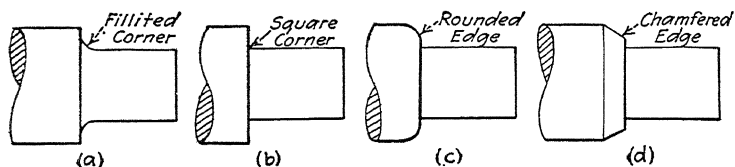

FIG. 95.
**114. Definitions.**—In Fig. 95, *a* represents a shoulder with a “filleted” corner, *b* with a “square” corner, *c* illustrates a shoulder with a “rounded” edge, *d* with a “chamfered” edge, and of course the last two terms apply as well to the ends of a piece as to the edges of a shoulder. To “break” an edge is to